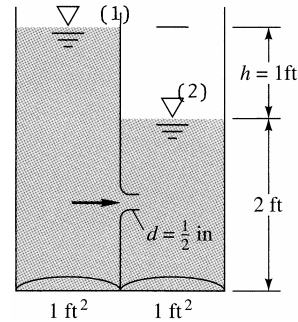

Fig. P6.153
6.153 Two water tanks, each with base area of 1 ft^2 , are connected by a 0.5-in-diameter long-radius nozzle as in Fig. P6.153. If $h = 1 \text{ ft}$ as shown for $t = 0$, estimate the time for $h(t)$ to drop to 0.25 ft.